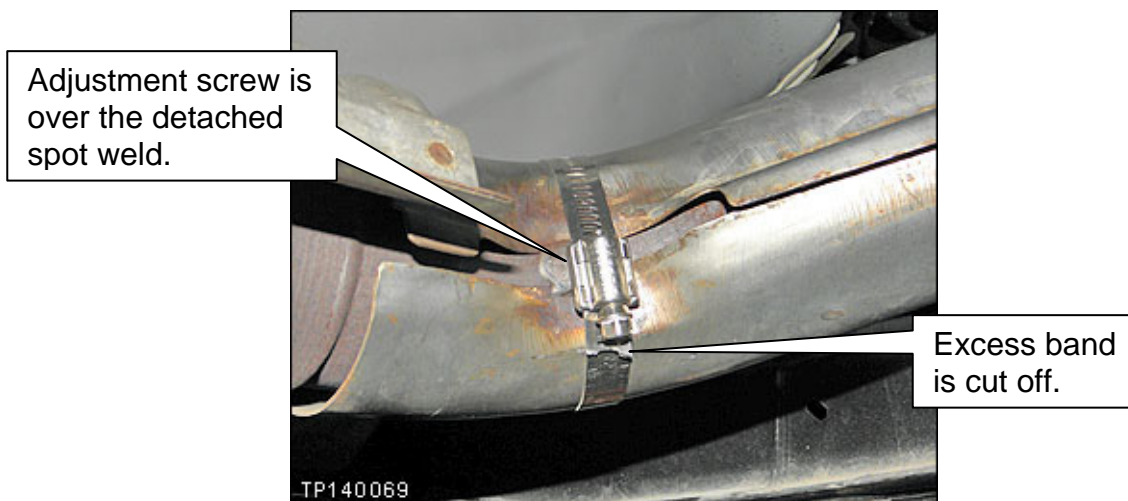

Figure 3
2. Install a band clamp around the heat shield and over the detached spot weld as shown in Figure 3.